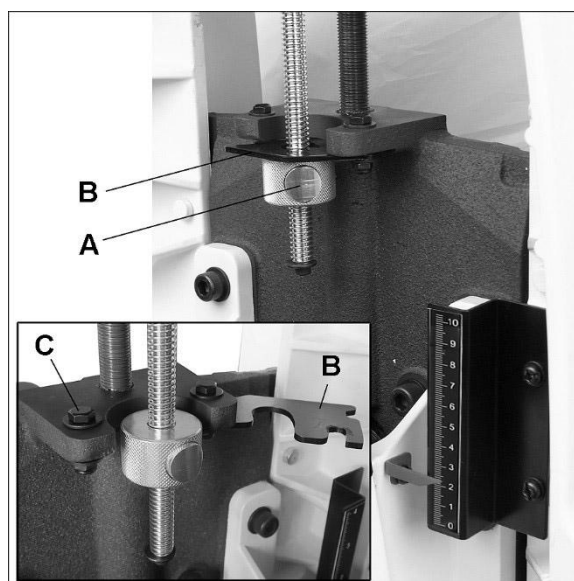

Figure 8-1
1. Rotate handle to position drum at *final* sanding depth according to scale. (Figure 8-1 shows 23mm final depth as example).
2. Press button on stop nut to slide nut into general position, then rotate nut until it firmly contacts bottom of plate (B).